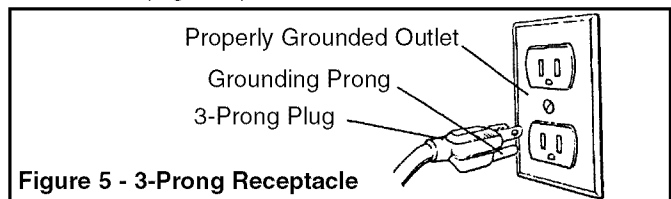

Figure 5 - 3-Prong Receptacle
Refer to Figures 5 and 6, pages 4 and 5.
- This tool is equipped with an approved 3-conductor cord rated at 150V and a 3-prong grounding type plug (Figure 5) for your protection against shock hazards.
- Grounding plug should be plugged directly into a properly installed and grounded 3-prong grounding-type receptacle, as shown (Figure 5).